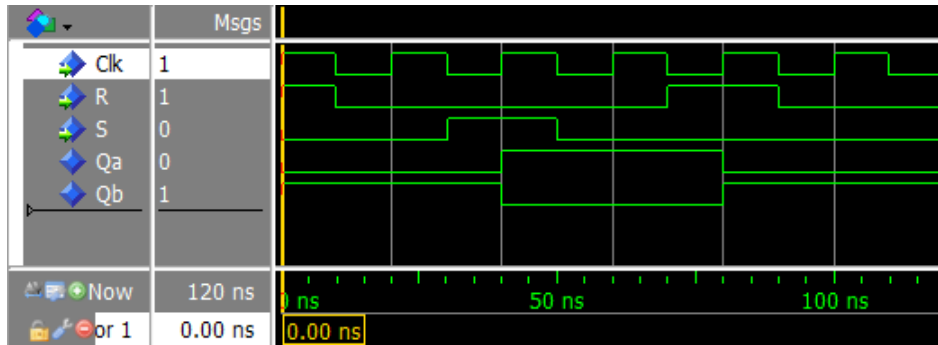

Figure 4: Simulation waveforms for the RS latch.
4. Simulate the behavior of your VHDL code by using the simulation feature provided in the Modelsim software. Use the testbench provided in the laboratory materials to drive the signals for your simulation. The procedure for using Modelsim for simulation is described in the tutorial *Introduction to Simulation of VHDL Designs Using ModelSim Graphical Waveform Editor*. An example of a vector waveform file is displayed in Figure 4. The waveforms in the figure begin by setting  $Clk = 1$  and  $R = 1$ , which allows the simulation tool to initialize all of the signals inside of the latch to known values.